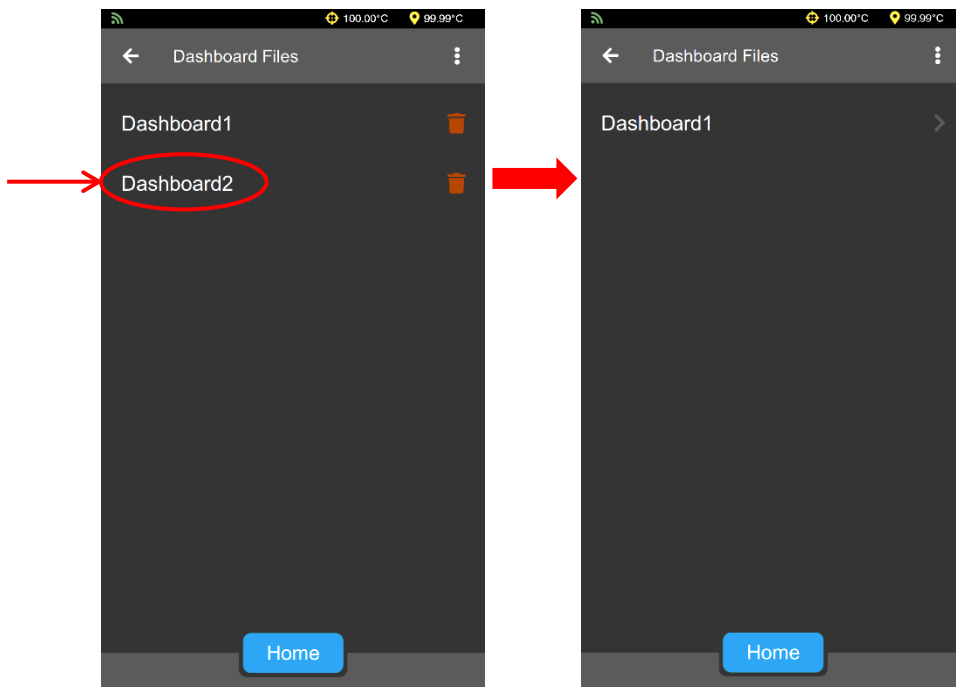

Figure 54: Delete Dashboard
5. Find the desired Dashboard and delete it by selecting it with a single touch. See Figure 54.